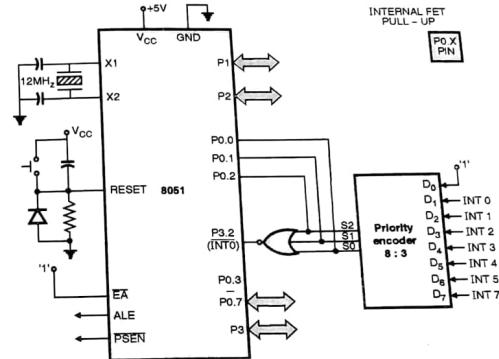

Fig. P. 3.11.1
**Solution :** The number of interrupts can be increased using priority encoder as shown in Fig. P. 3.11.1.
As shown in Fig. P. 3.11.1, 7 interrupt inputs can be connected to the priority encoder. It will give binary output '000', when none of the interrupt occurs. And hence the output of the NOR gate will be '1'. This indicates no interrupt. Whenever an interrupt occurs, the corresponding code will be generated on the select lines (binary output) and hence making the NOR gate output to be '0' and in turn generating interrupt. In the ISR P0 pins 0, 1 and 2 can be read to indicate the interrupt source. To increase the numbers of interrupt sources, the size of the encoder can be increased and also a similar system can be implemented an  $\overline{INT1}$  (P3.3). Assuming  $D_0$  has lowest priority and  $D_7$  has highest priority.